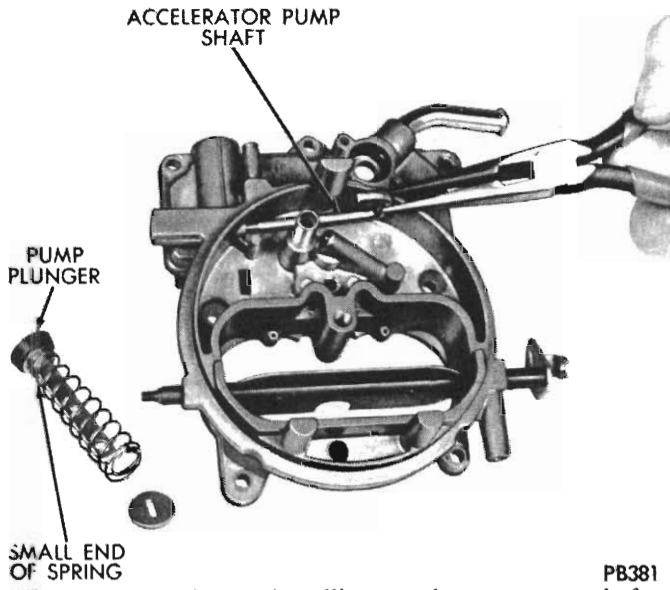
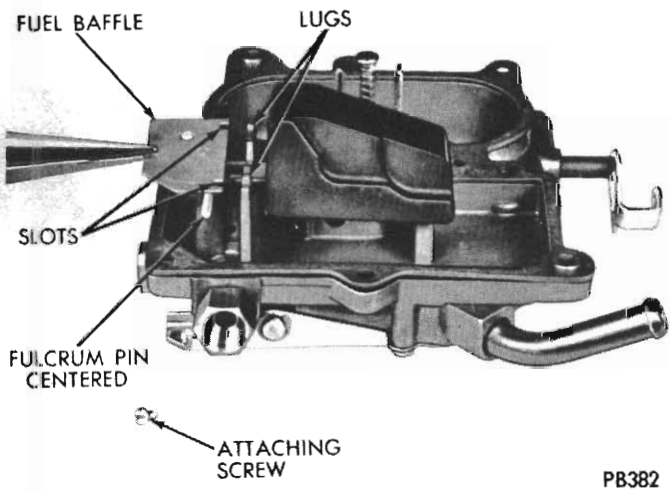
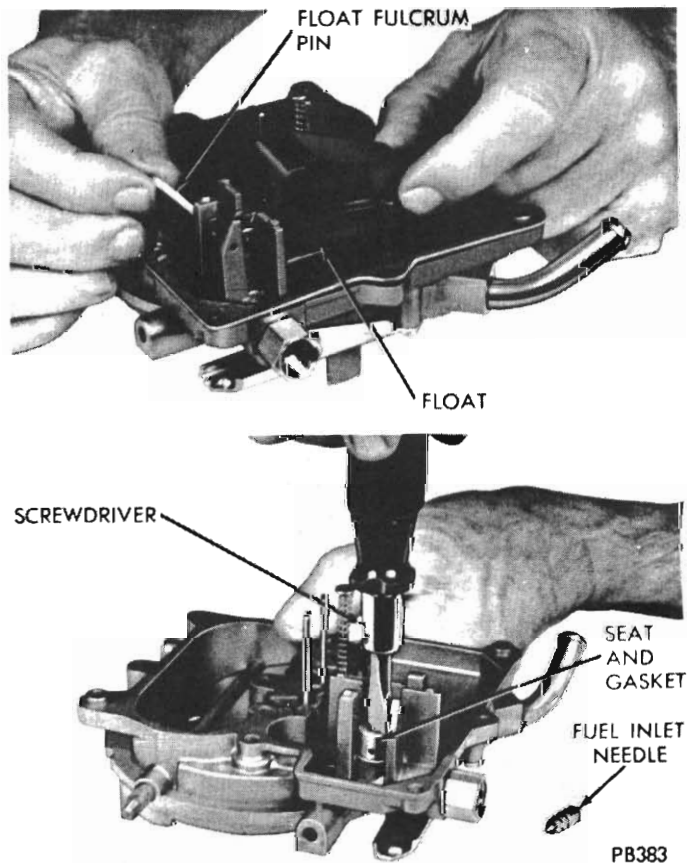
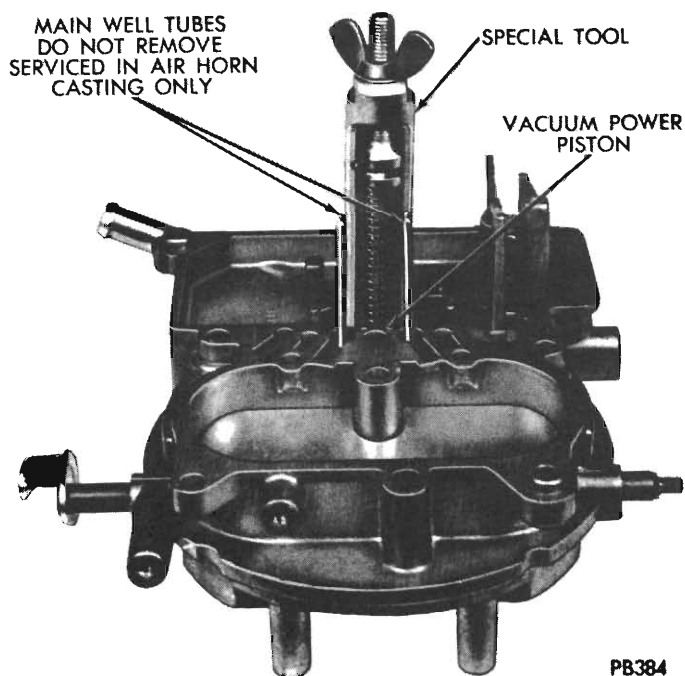

Fig. 8 - Removing or installing accelerator pump shaft
Fig. 9 - Removing or installing fuel baffle
Fig. 10 - Removing or installing float and needle seat
Fig. 11 - Removing vacuum power piston
(9) Slide accelerator pump shaft out of air horn (Fig. 8).
(10) Remove fuel inlet fitting and gasket from air horn.
(11) With air horn inverted, remove screw that attaches fuel baffle to air horn (Fig. 9).
(12) Slide nylon float fulcrum pin out of air horn, then remove float. Invert air horn and drop out fuel inlet needle. Using a wide blade screw driver, remove fuel inlet needle valve seat and gasket (Fig. 10).
(13) Remove air horn gasket and discard.
(14) Remove vacuum power piston from air horn, using Tool E14C30E (Fig. 11). (This assembly is staked in position and care must be used at removal.) Remove staking, using a suitable sharp tool.
(3) Slide accelerator pump plunger compression spring over plunger stem, with small diameter toward plunger. Install pump shaft in air horn (Fig. 8).
(4) As plunger is being installed in air horn, slightly tilt plunger to engage with plunger shaft.
(5) Install fuel inlet needle valve seat and gasket in air horn. Tighten securely, using a wide blade screwdriver. Install fuel inlet needle in seat (Fig. 10).
(6) Install float in position, then slide delrin fulcrum pin through float hinge to retain float. **Centre** fulcrum pin (Fig. 10).
(7) Install fuel baffle on bosses with slots engaged lugs. Install attaching screw and tighten securely (Fig. 9).